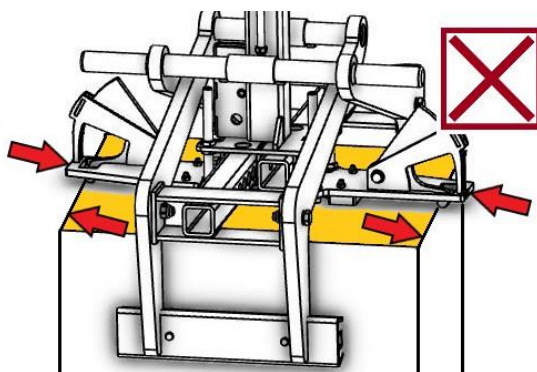

Fig. 2A
**Otherwise, the SAFETY-INDICATORS will not work!** (Fig. 2A).